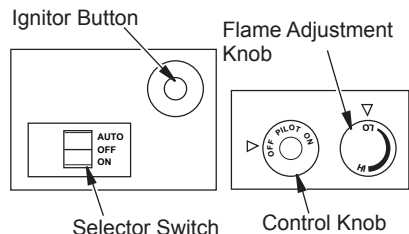

Figure 27 - Control Knob and Ignitor Button Location (Shown as Supplied, No Control Options)
5. Wait five (5) minutes to clear out any gas. Then smell for gas, including near the floor. If you smell gas, STOP! Follow "B" in the safety information, column 1. If you don't smell gas, go to the next step.
6. Press in and turn control knob counter-clockwise  to the PILOT position. Press in control knob for five (5) seconds (see Figure 27).